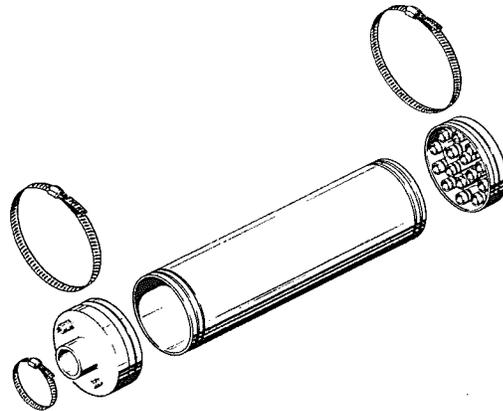

Figure 1. K&B Splice Closure
2.01 The K&B Splice Closure (Figure 1) is available in the sizes listed in Table A. Each closure consists of the following components:
- One (1) solid or split sleeve
- One (1) collared end cap
- One (1) multiple end cap & cable lubricant